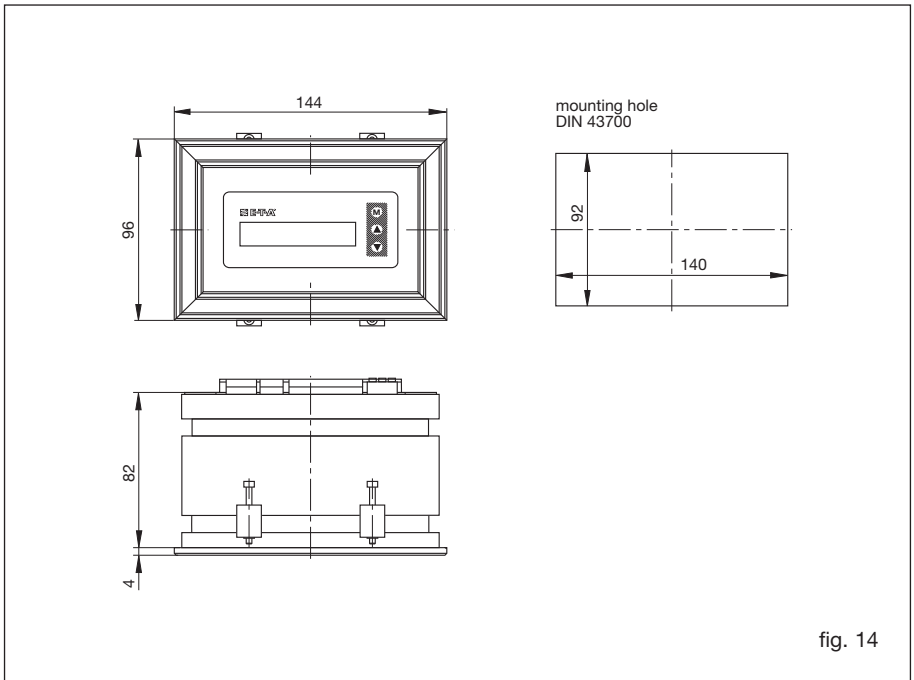

fig. 14
2.2.1.3 Front panel mounted housing FC01-CA-ST-U1... (fig. 14)
- Insert housing into front of mounting hole and fix with 4 screws (see fig. 14) from the rear.